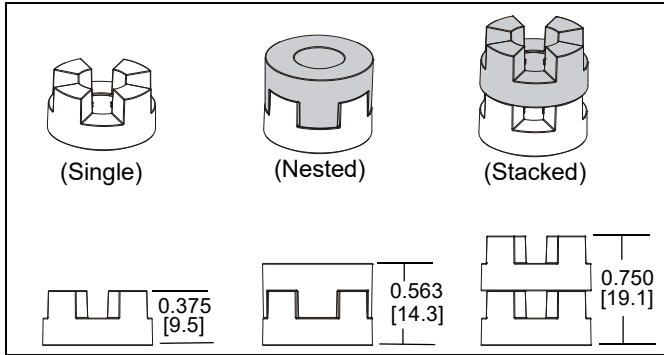

Figure 10
NOTE: The nesting spacers (MA) may be used separately, or put two together in different configurations to create different size spacers. (See Figure 10)